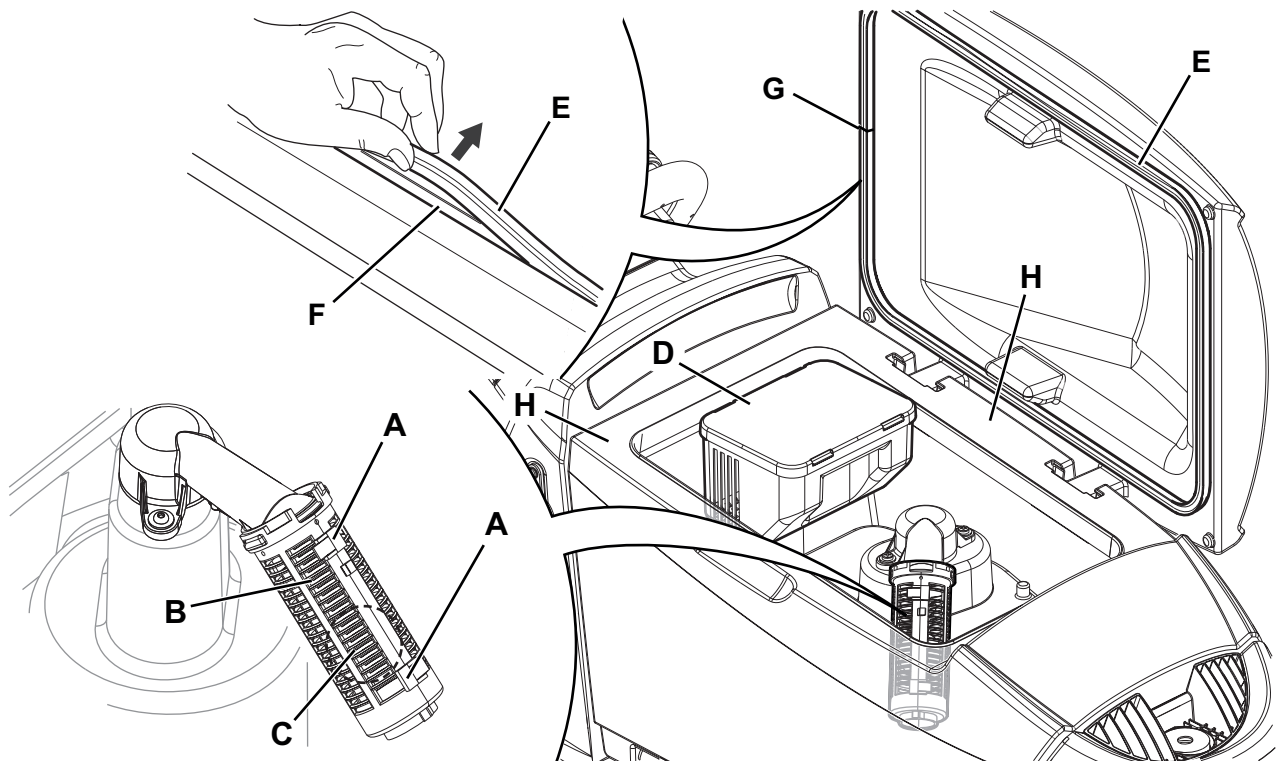

Figure 12
2. Ensure that the machine is off and the operator key (41) has been removed.
3. Raise the cover (34).
4. Drain the water from the tank with the drain hose (12).
5. Clean the vacuum grid (31), release the fasteners (A, Fig. 12), open the grid (B) and recover the float (C) then clean it carefully and reinstall it.
6. Remove the debris collection tank (D) and open its cover, then clean it carefully and reinstall it on the vacuum hose.
7. Check the condition of the tank cover gasket (E).